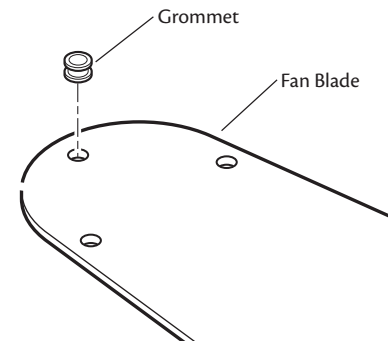

Figure 20 - Inserting the grommets into the fan blades
- Your fan may include blade grommets. If your fan has grommets, insert them by hand into the holes on the blades as shown in Figure 20.